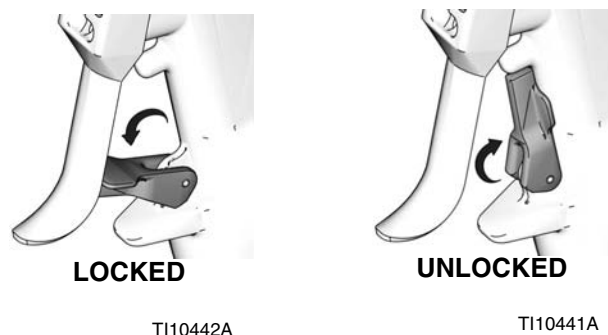

FIG. 3
1. If you are using one of the hand-held versions of the valve, lock the valve trigger safety by turning the latch to a right angle with the gun body. See FIG. 3.